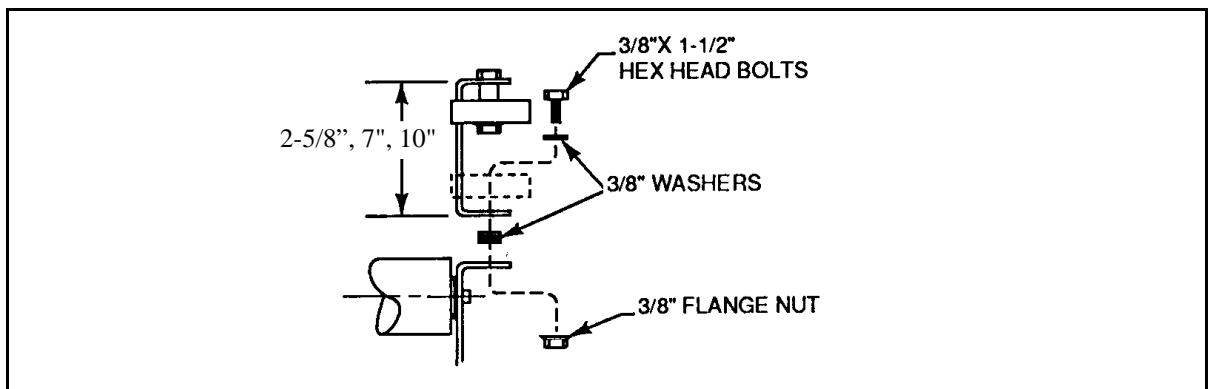
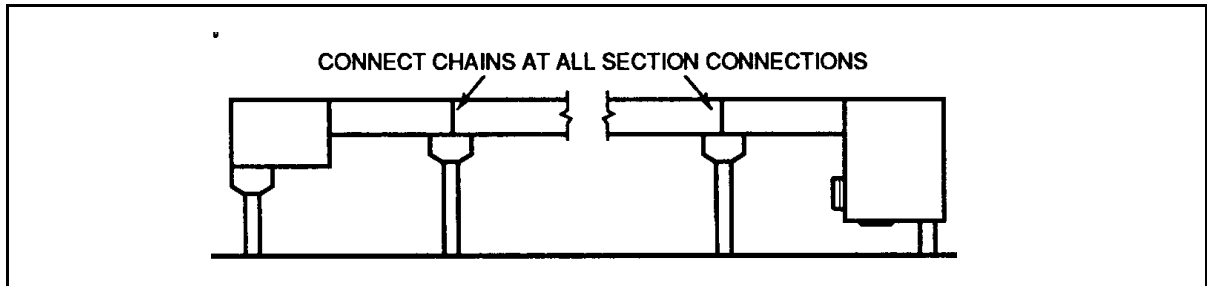

Figure G.36 – Mounting Wheel Face Side Guide
Figure G.37 – Style 1 - T/C Straight Conveyor
Step 3. Attach the side guide to the conveyor on side that products are to be skewed to Figure G.36 and Figure G.37.
Once all of the conveyor components have been positioned, aligned, connected, and anchored the next step is to make ALL of the chain connections (see Figure G.37). For assembly instruction, see subsection, “Style 1 Conveyor Assembly” and subsection “Model PRS - Powered Roller Skew”.